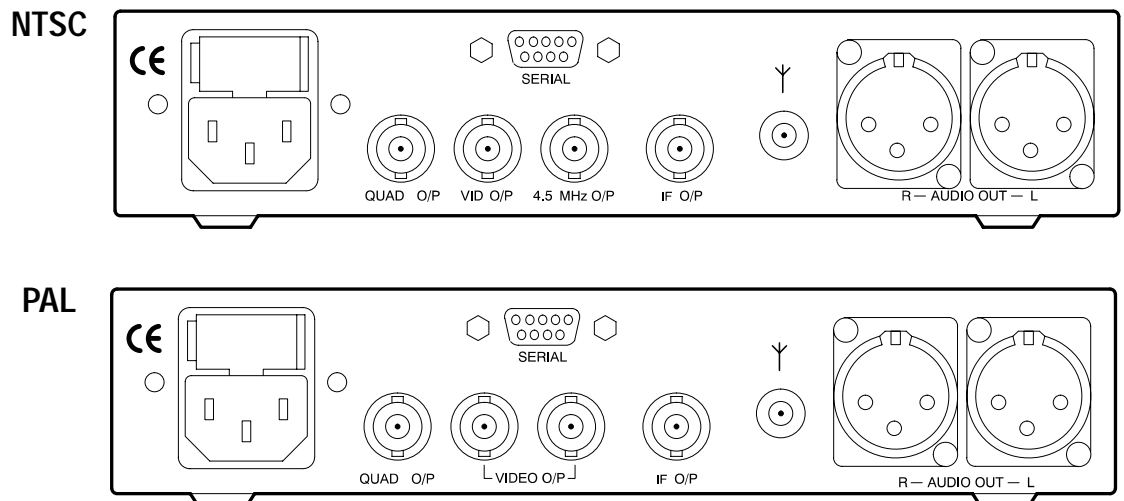

Figure 2–2: Rear-panel connectors for NTSC and PAL models
This section describes the rear panel connectors, which are illustrated in Figure 2–2.
- VIDEO O/P. Provides a standard 1 volt video output with nominal 75  $\Omega$  impedance. The NTSC model has one output and the PAL models have two identical VIDEO O/P outputs. See Figure 2–2.
- AUDIO OUT (L). Provides a BTSC stereo left channel or mono channel output for NTSC systems. For PAL systems, it provides a NICAM/FM audio output, left channel or language 1 dual mode.
- AUDIO OUT (R). Provides a BTSC stereo right channel or second audio program (SAP) output for NTSC systems. For PAL systems, it provides a NICAM/FM audio output, right channel or language 2 dual mode.